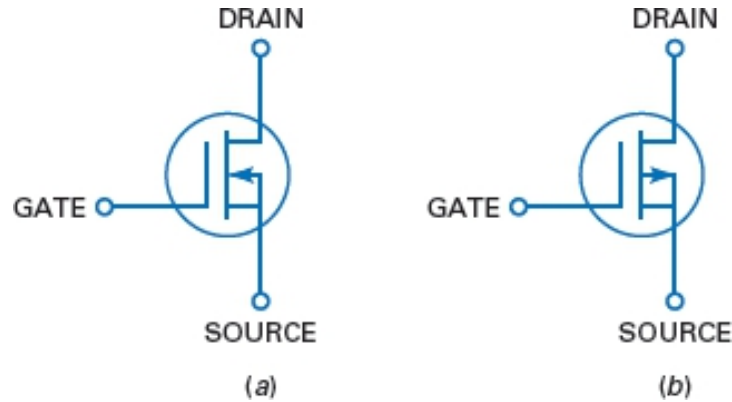

Figure-29 D-MOSFET schematic symbols: (a) n-channel; (b) p-channel
- The action of a p-channel MOSFET is complementary to the n-channel MOSFET. The schematic symbols for both n-channel and p-channel D-MOSFETs are shown in Figure-29.